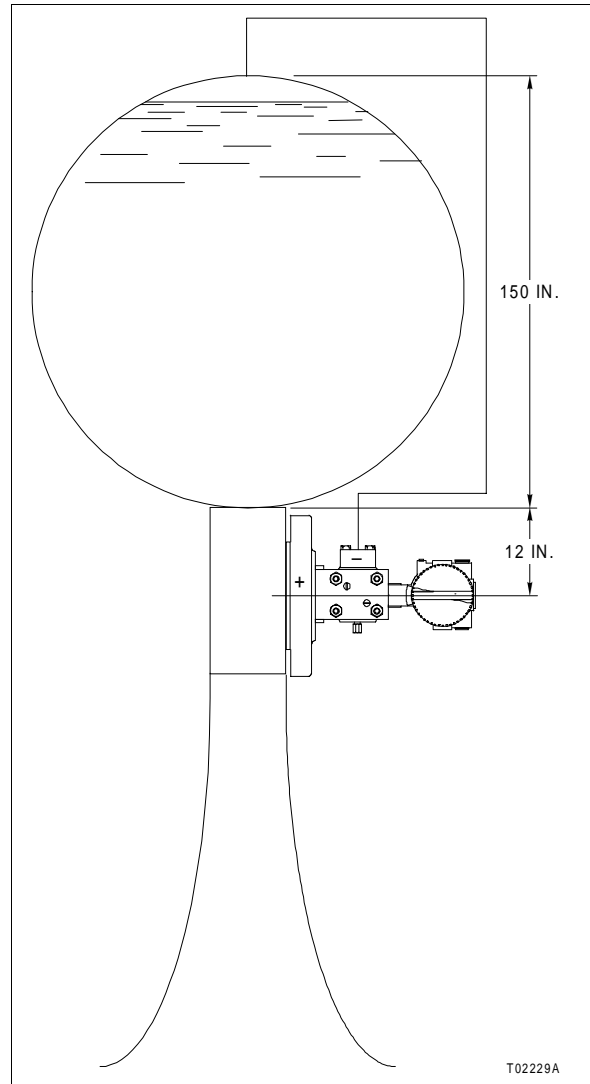

Figure 2-7. Spherical Tank Measurement
Figure 2-7 shows a spherical tank setup. This is a common industrial tank. This procedure shows how to calculate the values entered into the transmitter (via the Type STT terminal) during configuration if *VOL./SPHERE* is chosen from the *OUTPUT TYPE* menu.
- b. If the location of the cell is below the bottom of the sphere, as shown in Figure 2-7, then offset the zero by setting the primary lower range value to the pressure corresponding to the distance between the bottom of the sphere and the cell times the specific gravity (SG) of the liquid.
- b. If the location of the cell is below the bottom of the sphere, as shown in Figure 2-7, then the primary upper range value is the height of the tank times the specific gravity of the liquid plus the primary lower range value.
Example: A Type PTSDLD level transmitter is installed as shown in Figure 2-7, and will be configured in the United States. The tank is filled with water (specific gravity = 1.0). The transmitter has an upper range limit of 360 inches of water. The cell is mounted 12 inches below the bottom of the sphere. The sphere itself is 150 inches in diameter. The empty volume is zero and the full volume is 7,650 gallons. The compensating leg shown in Figure 2-7 is a dry leg.